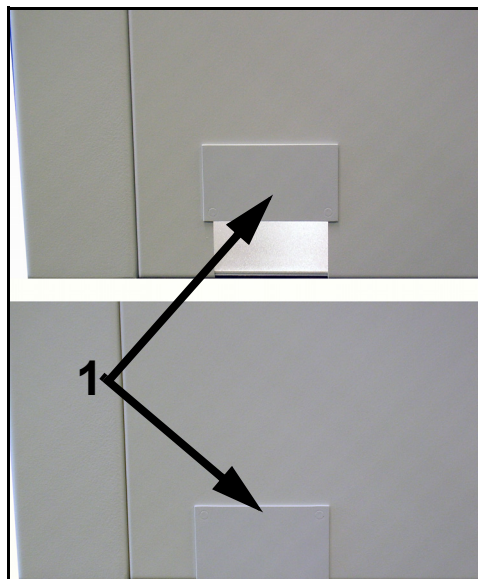

Figure 2-29. Port Cover (Back View)
- 49** Pull the port cover (1 in Figure 2-29) out, flip it over, and reinsert it.